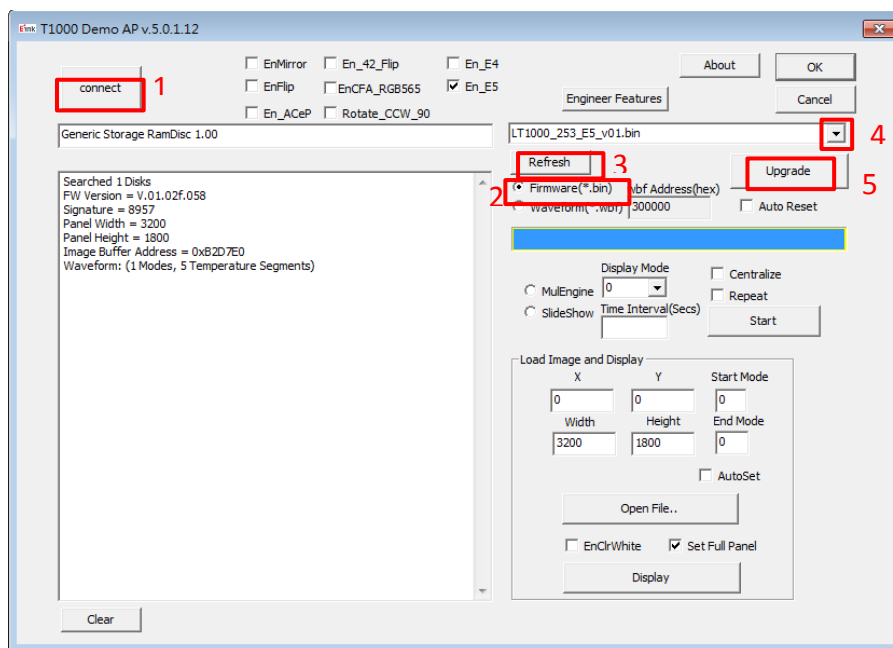

Figure 3.4
(2) How to upgrade firmware
- ◆ Execute T1000 Demo AP(refer to Figure 3.4)